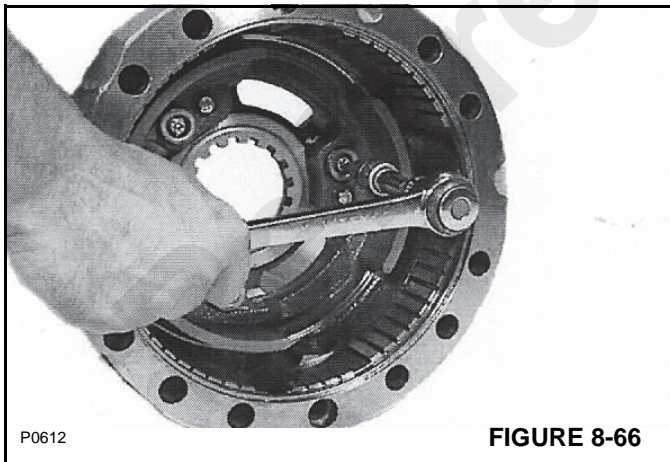

FIGURE 8-66
9. Place the brake flange on a workbench or place in a vise with soft jaws. Unscrew the upper self-adjust screws (Figure 8-66) and remove the springs and bushings.